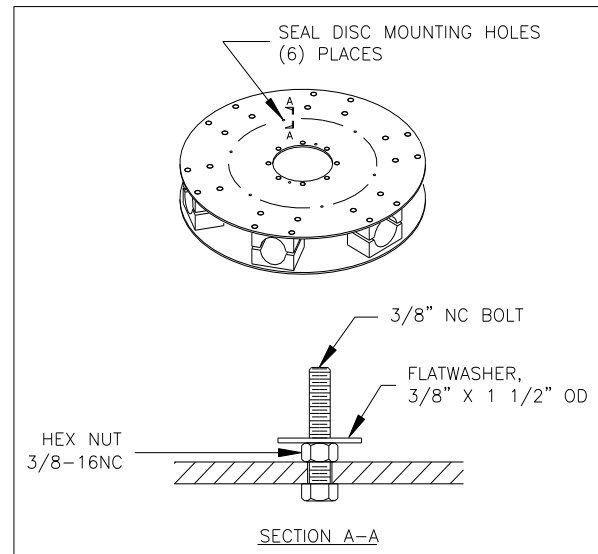

Figure 13
Install 3/8" NC bolts at six (6) places on top hub plate (See Figure 13 & 14). Threaded portion of bolts must be pointing up to mount seal disc. Install lock washer, nut, and flat washer on each bolt. Tighten 3/8" NC nuts to 15 ft-lb (lubricated) and 20 ft-lb (dry).